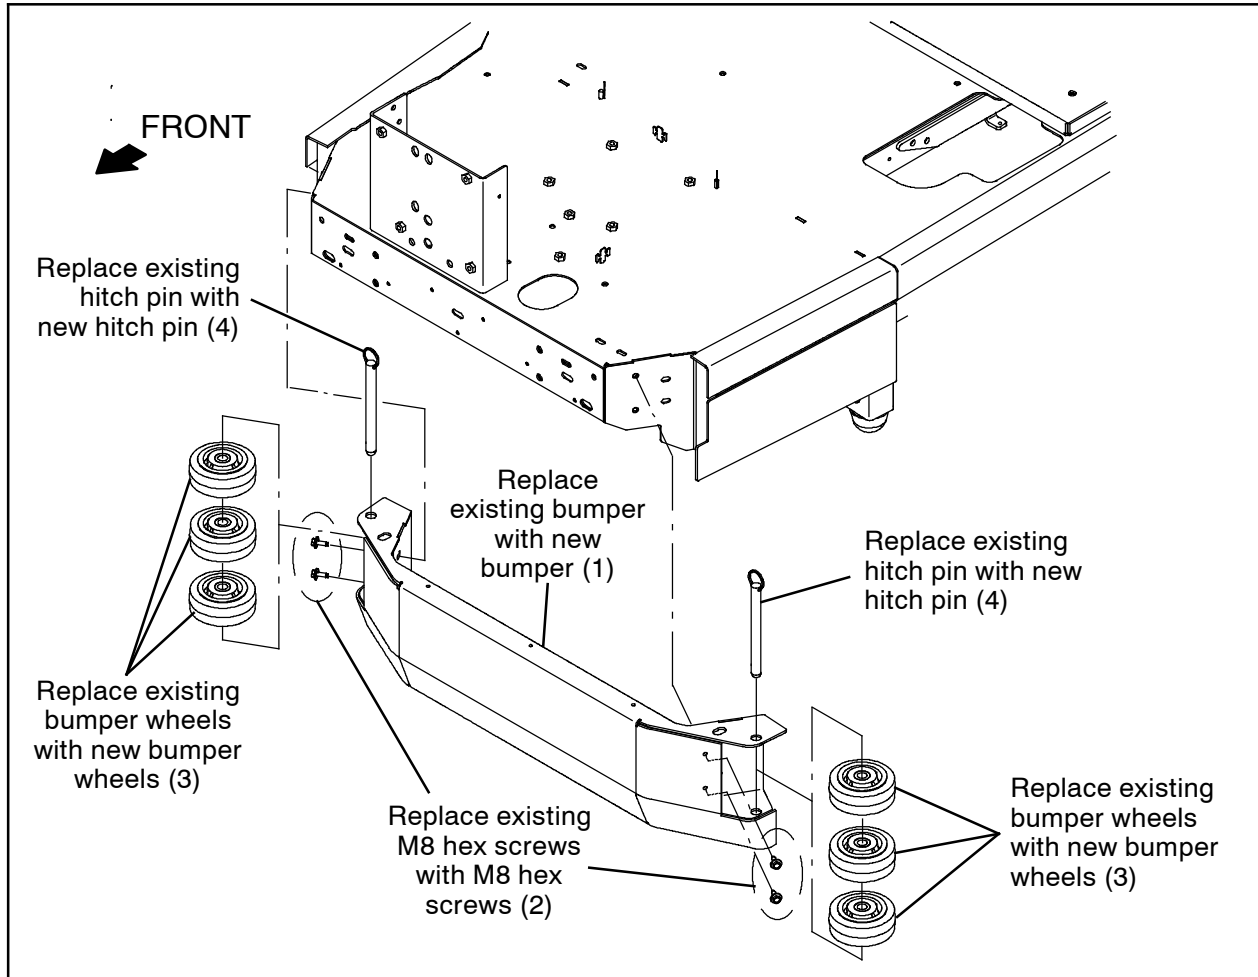

FIG. 2
1. Remove the bumper wheels from the machine. Discard both hitch pins and all six bumper wheels. (Fig. 2)
3. Position a jack / jack stands under the front bumper to hold front bumper into place when the M8 hex screws securing it to the machine are removed in the following step. (Fig. 2)
4. Remove the front bumper from the machine. Discard the front bumper and M8 hex screws. (Fig. 2)
5. Use a jack / jack stands to hold the new front bumper (1) into place on the front of the machine.
6. Use four M8 SEMS hex screws (2) to secure the front bumper (1) onto the machine. (Fig. 2)
8. Use a hitch pin (4) to install three bumper wheels (3) onto each side of the bumper (1). (Fig. 2)